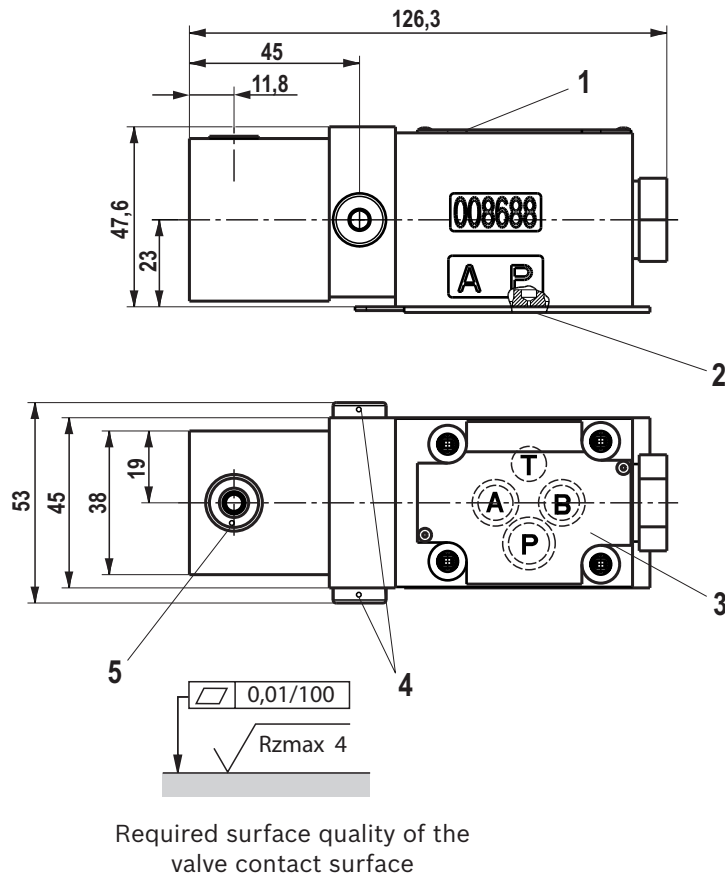

Fig. 6: Unit dimensions type M-SMM... (dimensions are nominal dimensions)
- ▶ Connect air-tight piping at **one of the two** ports for dry air (see fig. 6) (connection thread G1/8, $M_a = 12 \text{ Nm} \pm 1.2 \text{ Nm}$) supplying the spring chamber with dry air.